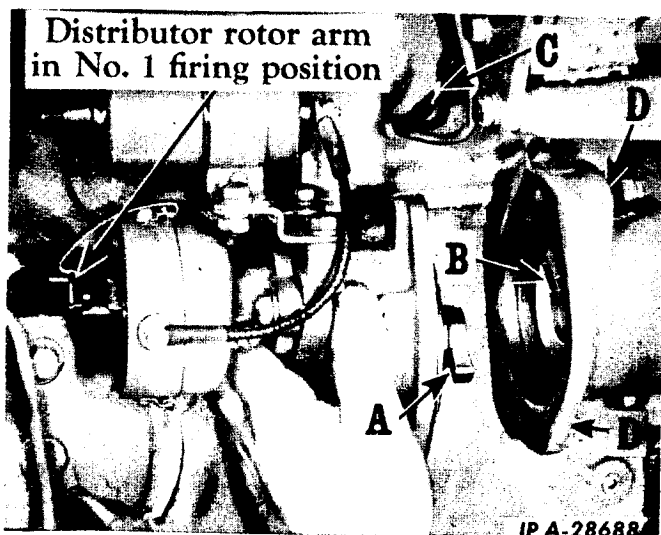

Fig. 16 - Installing the Battery Ignition Unit.
3. Pull out the drive shaft to disengage the gears. Then turn the shaft clockwise so that the drive shaft lugs (A, Fig. 16) are approximately 35° past horizontal or approximately in the same position as the drive shaft slots (B). Engage the gears and press the drive shaft in with the palm of the hand.
4. Assemble the distributor unit and gasket to the mounting bracket, being sure the drive lugs (A, Fig. 16) are meshed with drive slots (B). Secure with two mounting bolts and washers. Assemble the distributor cap.
5. Connect the ignition switch cable (C, Fig. 16) to the negative terminal of the coil.